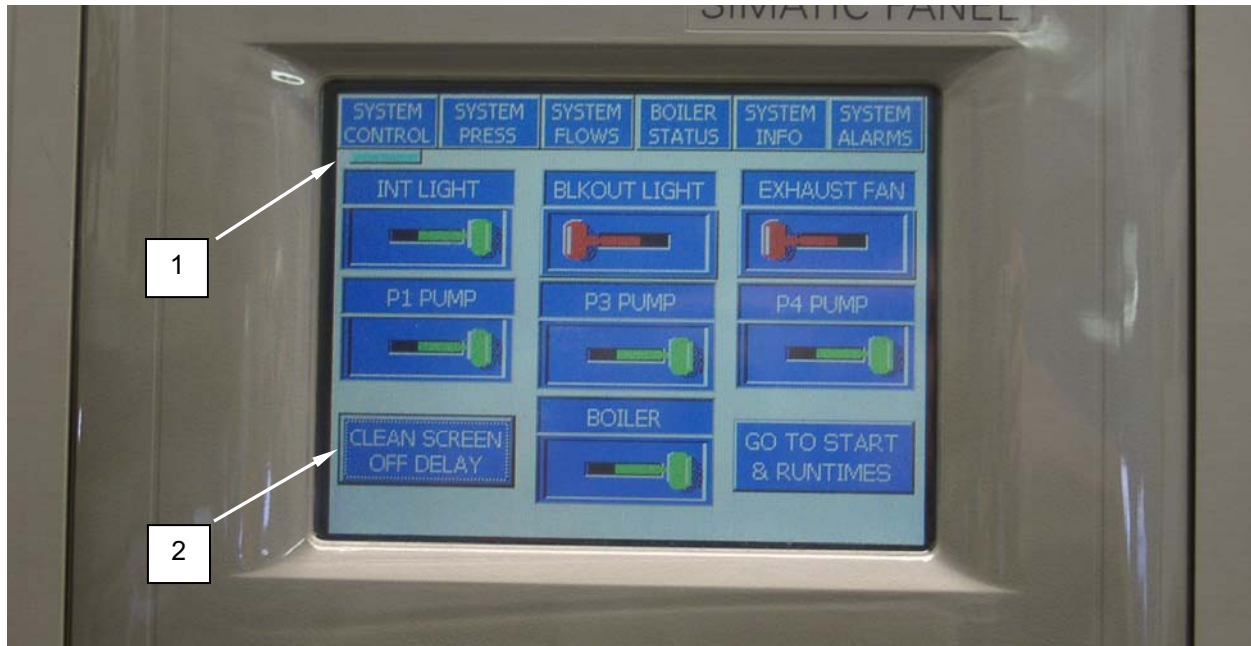

Figure 8. Operate the Clean Screen off Delay.
1. Ensure the System Control (**Figure 8, Item 1**) screen is displayed.
2. Touch the CLEAN SCREEN OFF DELAY BUTTON (**Figure 8, Item 2**).